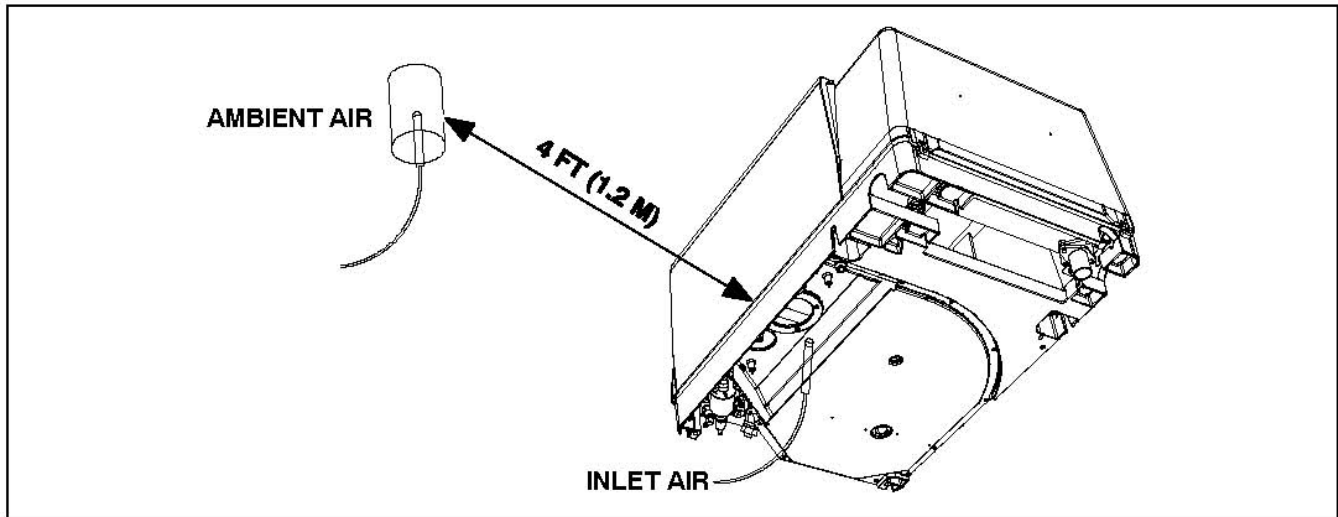

FIGURE 34. THERMOCOUPLE LOCATIONS FOR HOT AIR RECIRCULATION TEST
- a. Measure genset inlet air temperature with one thermocouple tied in the middle of the inlet air grille (Figure 34).